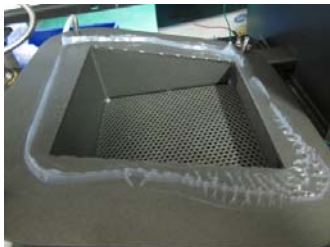

Fig 3-17 Sealing silicone
- (1) Clean up the sealing silicone, cover with a layer of silicone again, refer to fig 3-17.